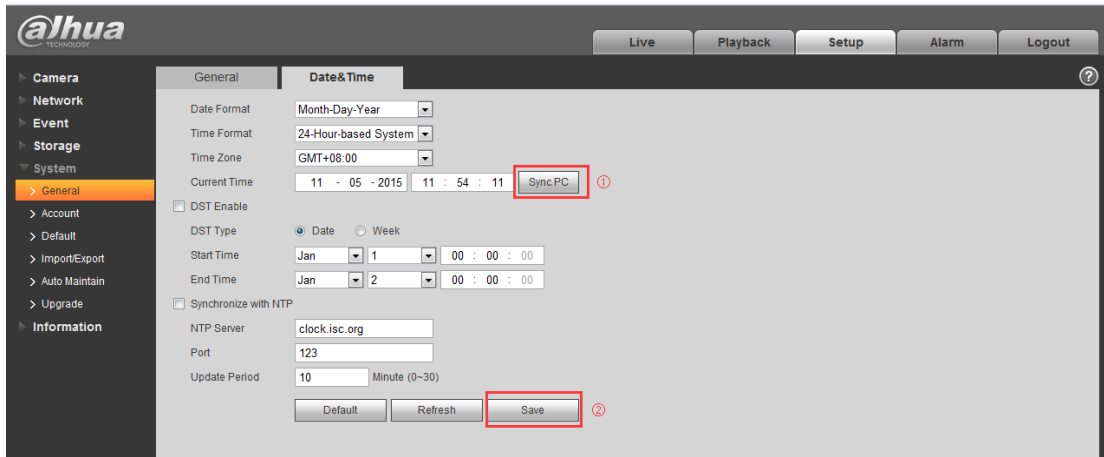

Figure 12-1
1) Enter 'System-General-Date&Time' as Figure 12-1, Click 'Sync PC', then 'Save'